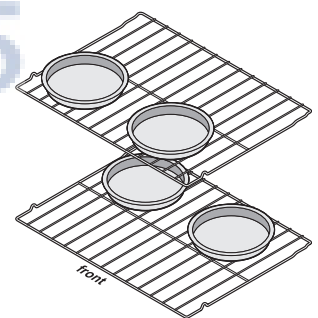

Figure 8: Pan spacing
- When baking using two oven racks, position cookware as shown in Figure 8. Allow at least 2 inches (5 cm) of space between cookware for proper air circulation.